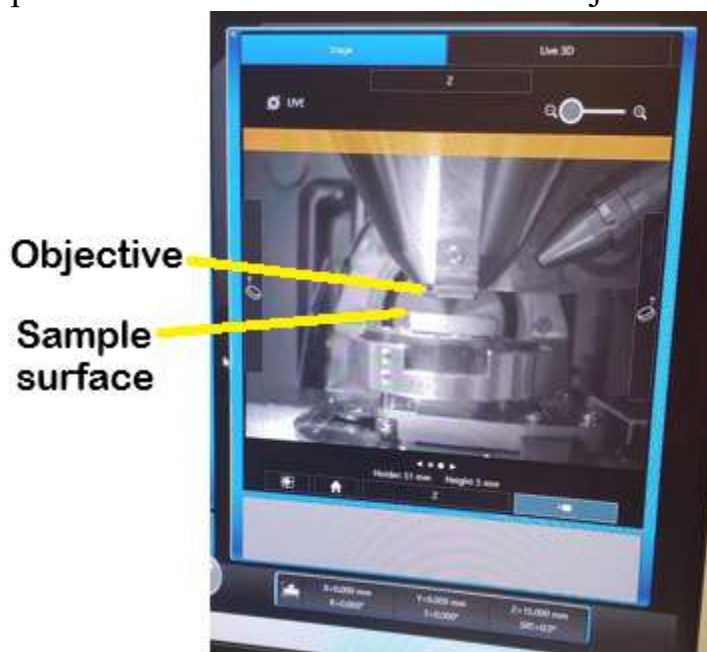

Fig. 13
10. Take the photo of the sample holder. For this look in the navigation window and select top-view camera by clicking on the dots (Fig. 13) .